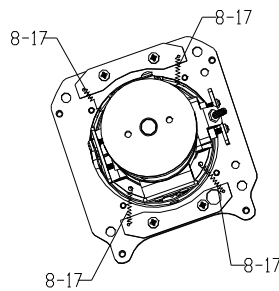

Figure 6
- Using an electric soldering iron, de-solder the 4 hairsprings (8-17#), as shown in figure 6.